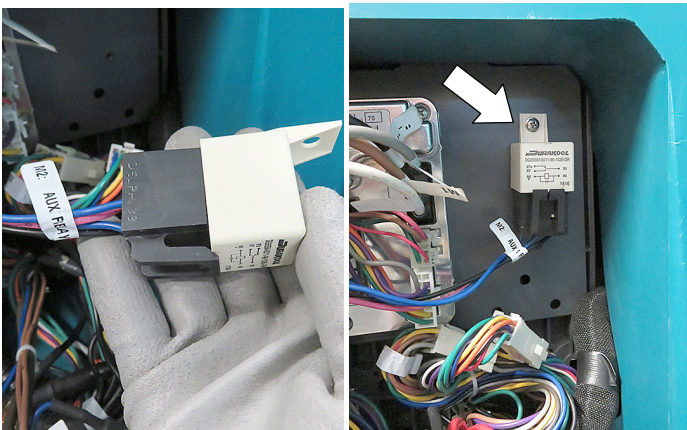

Fig. 37
3. Mount the relay to the electrical panel as shown (Figure 37). Use M4 x 0.70 x 12 screw [579237] and flat washer [01683].